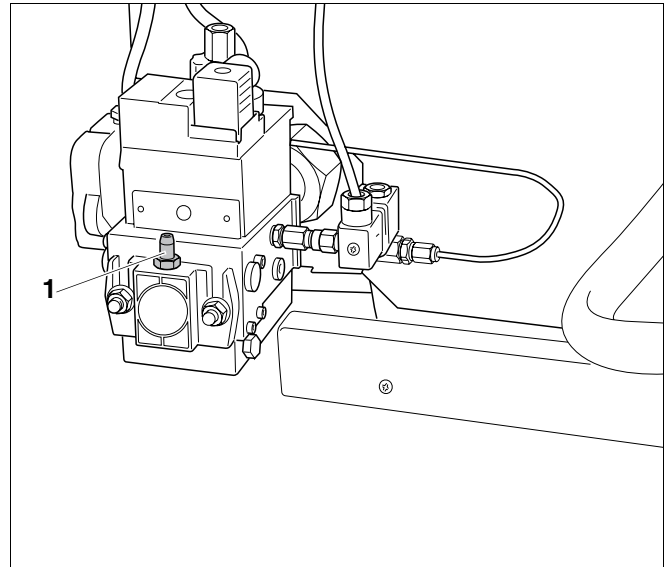

Fig. 9 Checking the mains gas pressure
- Release the plug on the test port for gas supply pressure and venting (Fig. 9, **Item 1**) on the gas train by two turns.
- Push the test hose of the U-tube pressure gauge onto the test nipple (Fig. 9, **Item 1**).
- Carefully tighten the plug on the test port for gas supply pressure and venting (Fig. 9, **Item 1**).